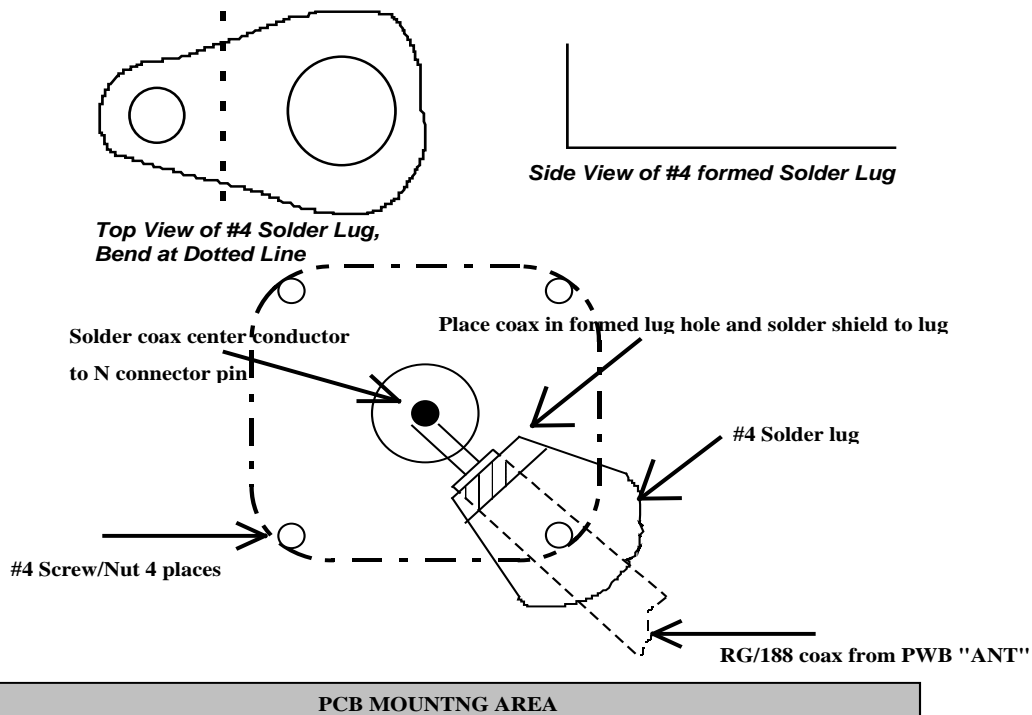
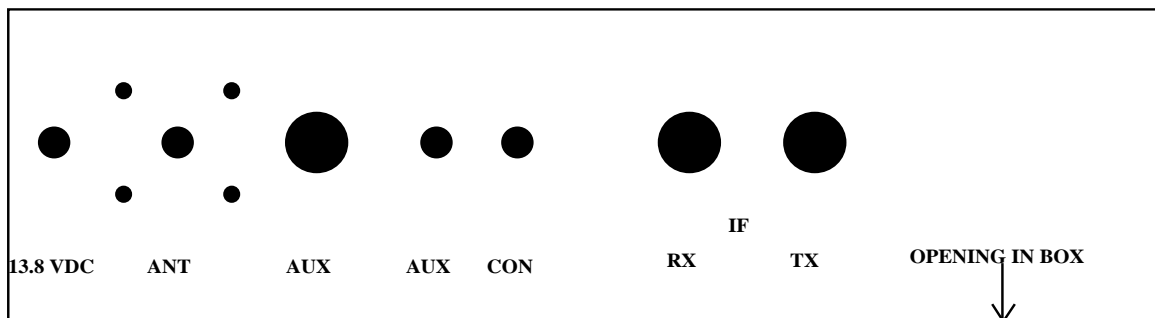

Figure 3. Inside View of Box, Solder Lug Installation on the 'N' Connector
Figure 4
- Insert the connector so it is flush to the box in the proper mounting hole (See Figure 4 for location).
Form the #4 ground lug as shown below prior to installing. Mount the prepared N connector using four 4-40 x 5/16" screws and nuts (see Figure 4 for connector location "ANT"). The screws should be inserted from outside of the box. Inside the box under the lower right nut install the formed #4 solder lug. Position this so the formed end is facing out and is facing the center pin of the N connector (See Figure 3). The coaxial cable will be installed later in the assembly.
Install the remaining rear wall mounted connectors, location per Figure 4:
Connect the #28 Teflon (TTL or PTT) wire to the wall mounted RCA CON jack, then connect a 1000pF capacitor to the center pin and solder lug and solder both leads (See Figure 4 for jack location).
Connect and solder a #18 Teflon wire (green) from the wall mounted 13.8 VDC jack to the middle terminal on the wall mounted switch and solder (See Figure 4 for jack location).
Push the center conductor through the hole in the solder lug and allow the shield to penetrate the hole (See Figure 3). Solder the shield to the solder lug, then solder the center conductor to the 'N' connector center pin.
15. Attach the supplied jack / switch labels to the box by first cleaning the mounting surface with a multi-purpose household surface cleaner. Use Figure 4 and 5 for placement location.